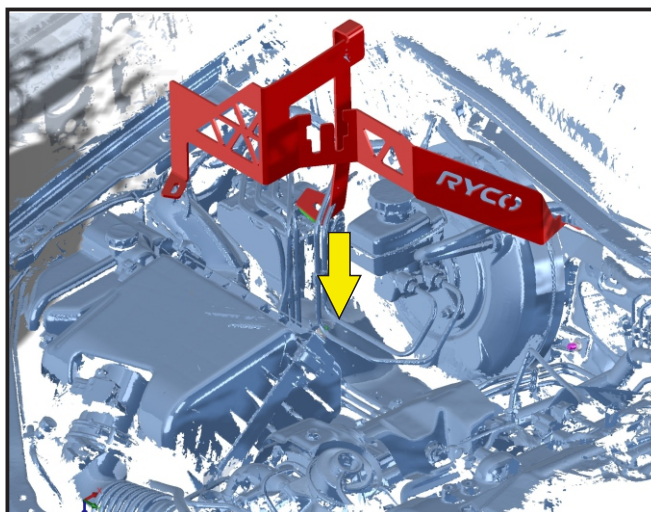

FIG. 9A FB9810CC BRACKET INSTALLATION
5. When fitting the FB9810CC Catchcan bracket as shown in FIG. 9A to 9C, you will be required to manouvre the bracket around engine components.